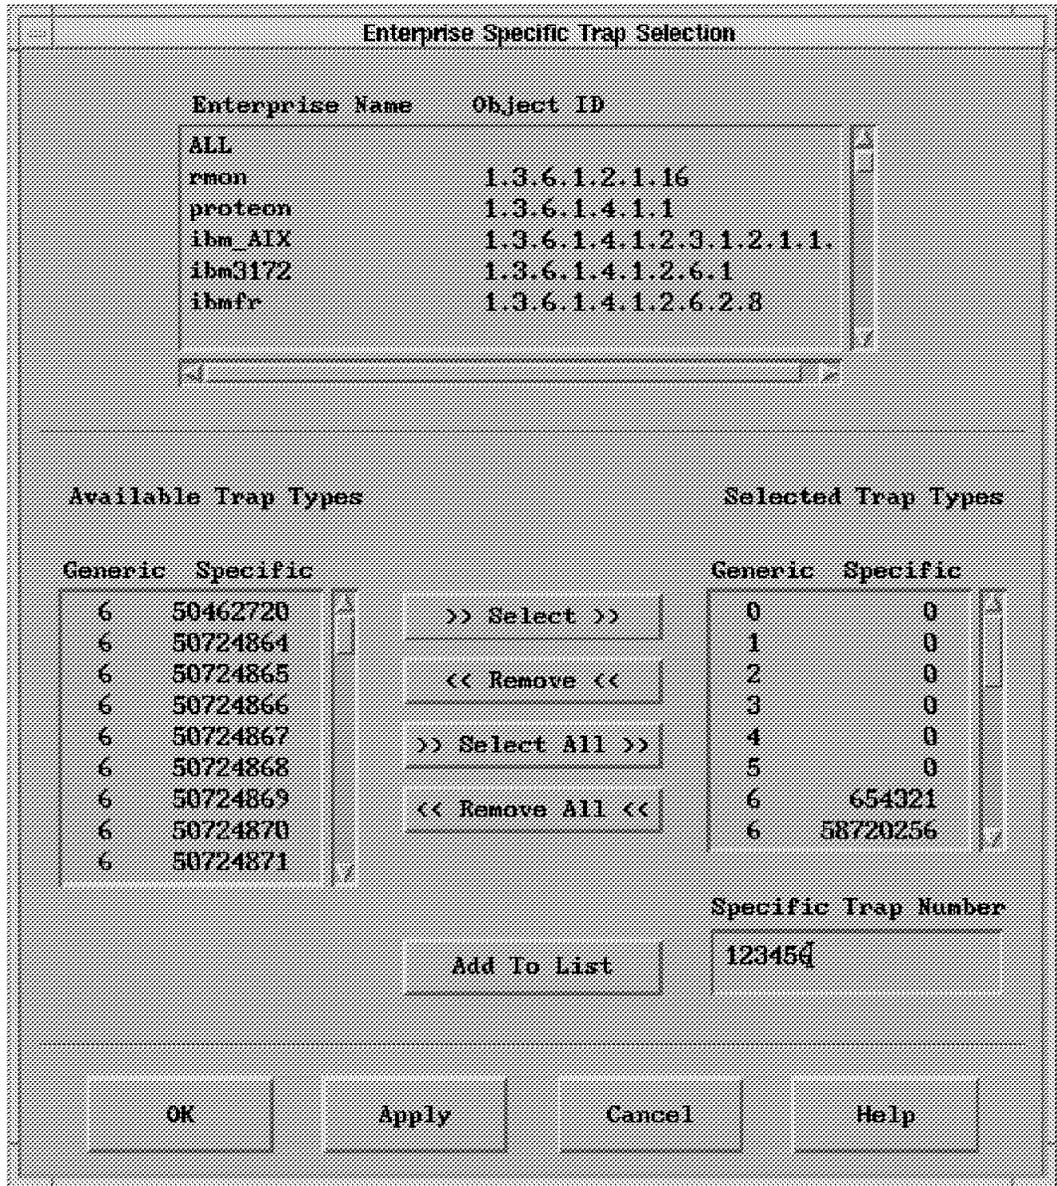

Figure 160. Adding a Specific Trap Type
- Select the specific trap **123456** from the list of available traps and select **>>Select>>**. If they are not in the list you have to add them to the list of selected trap types manually as shown in Figure 160 on page 228.